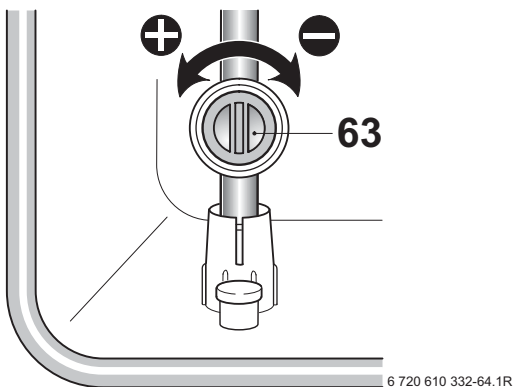

Fig. 41
- ▶ Adjust the gas flow restrictor (63) to obtain the CO2 level given in Table 14. Refer to fig. 41.